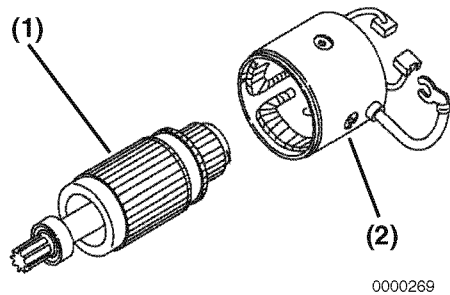

Figure 11-30
7. Carefully install the armature assembly (Figure 11-30, (1)) into the field coil assembly (Figure 11-30, (2)).